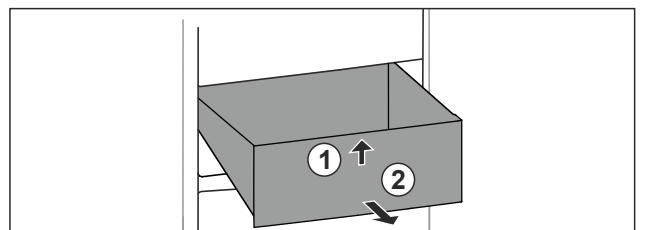

Fig. 86
- ▶ Lift up drawer at the front. Fig. 86 (1).
- ▶ Remove drawer to the front. Fig. 86 (2).